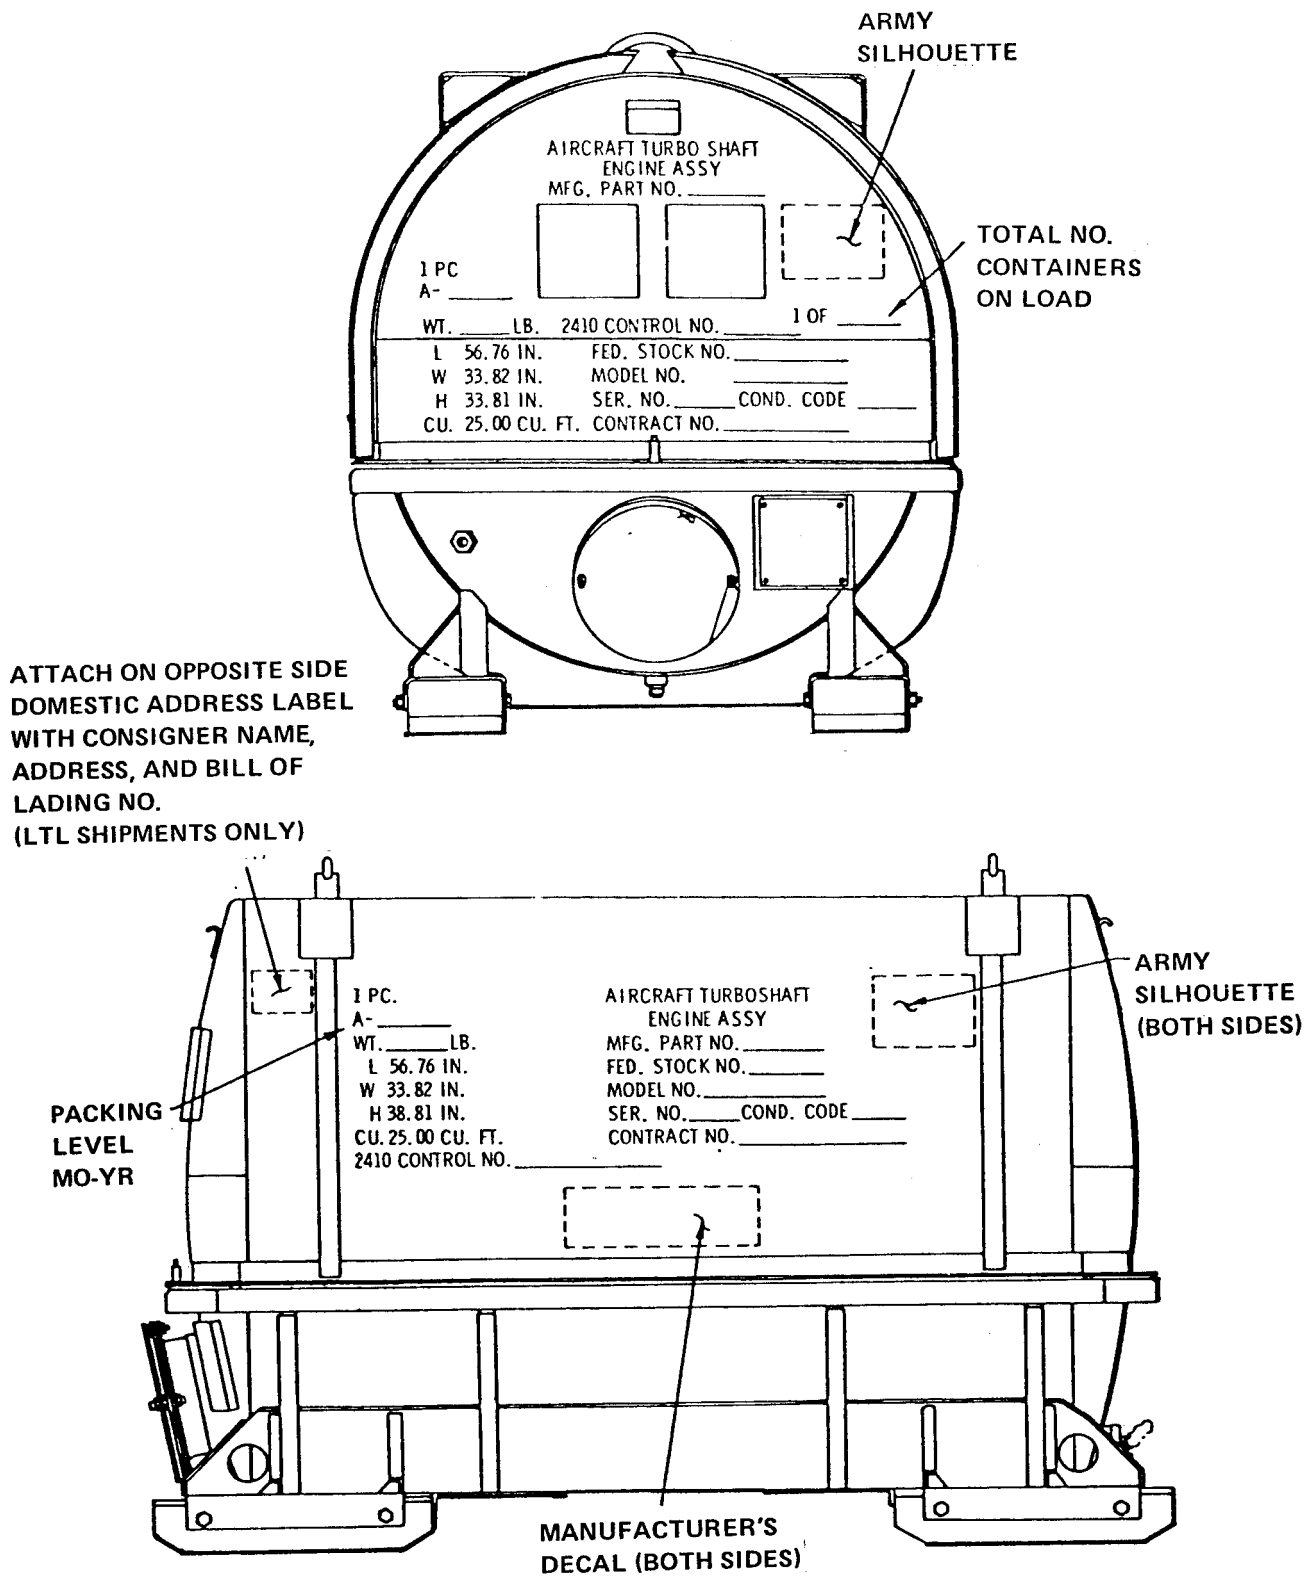

Figure 1-16. Engine Shipping Container Stenciling and Labeling
2. Engine	If covers are not available, seal with barrier material (item 2, Appendix D) and secure with tape (item 3, Appendix D).	Seal all openings with covers.
c. Stenciling, labeling and marking of containers for storage and shipment are shown in figures 1-16 and 1-17. Obliterate old markings that do not apply. Letters and numerals of stencils shall be in block letters 1/2 inch high. Use white stencil ink (item 10, Appendix D). For additional information on marking and stenciling refer to MIL-STD- 129.